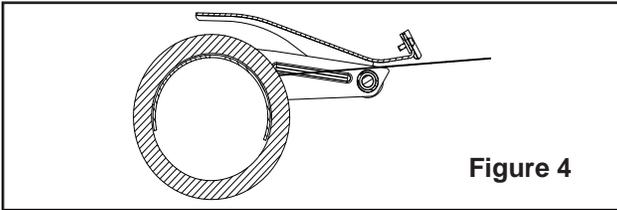

Figure 4
- 1) Pull out the desired length of tape and apply it to the side of the box (as shown in **Figures 4 and 5**).